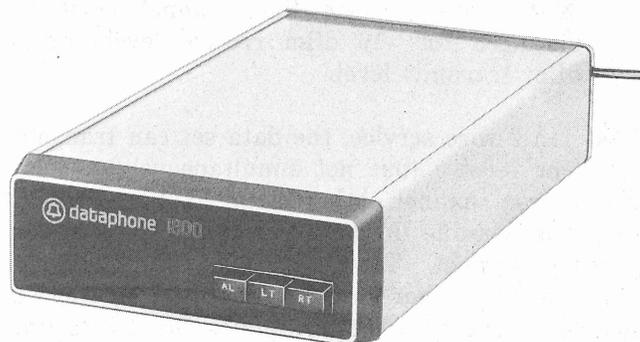

Fig. 1—Data Set 202T, Front View
1.01 This section contains the physical and functional description and operating procedures for data set (DS) 202T (Fig. 1). Other than a description of interface signals and customer options, information pertaining to the customer-provided terminal is not given.